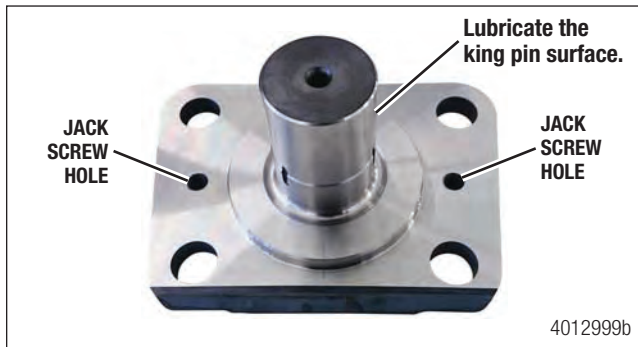
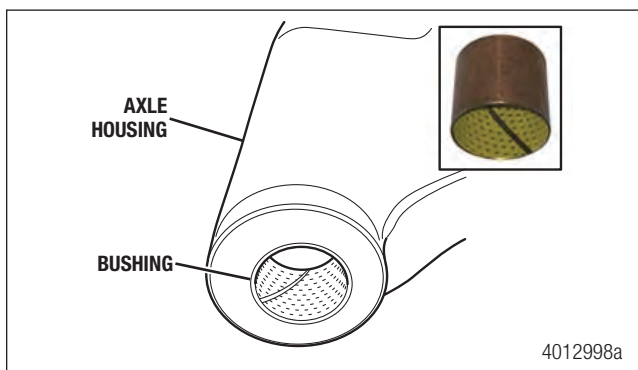

Figure 14.4
Figure 14.5
2. Using Meritor-approved grease, lubricate the surfaces of the lower king pin and king pin bushing inside the axle housing. Figure 14.4 and Figure 14.5.